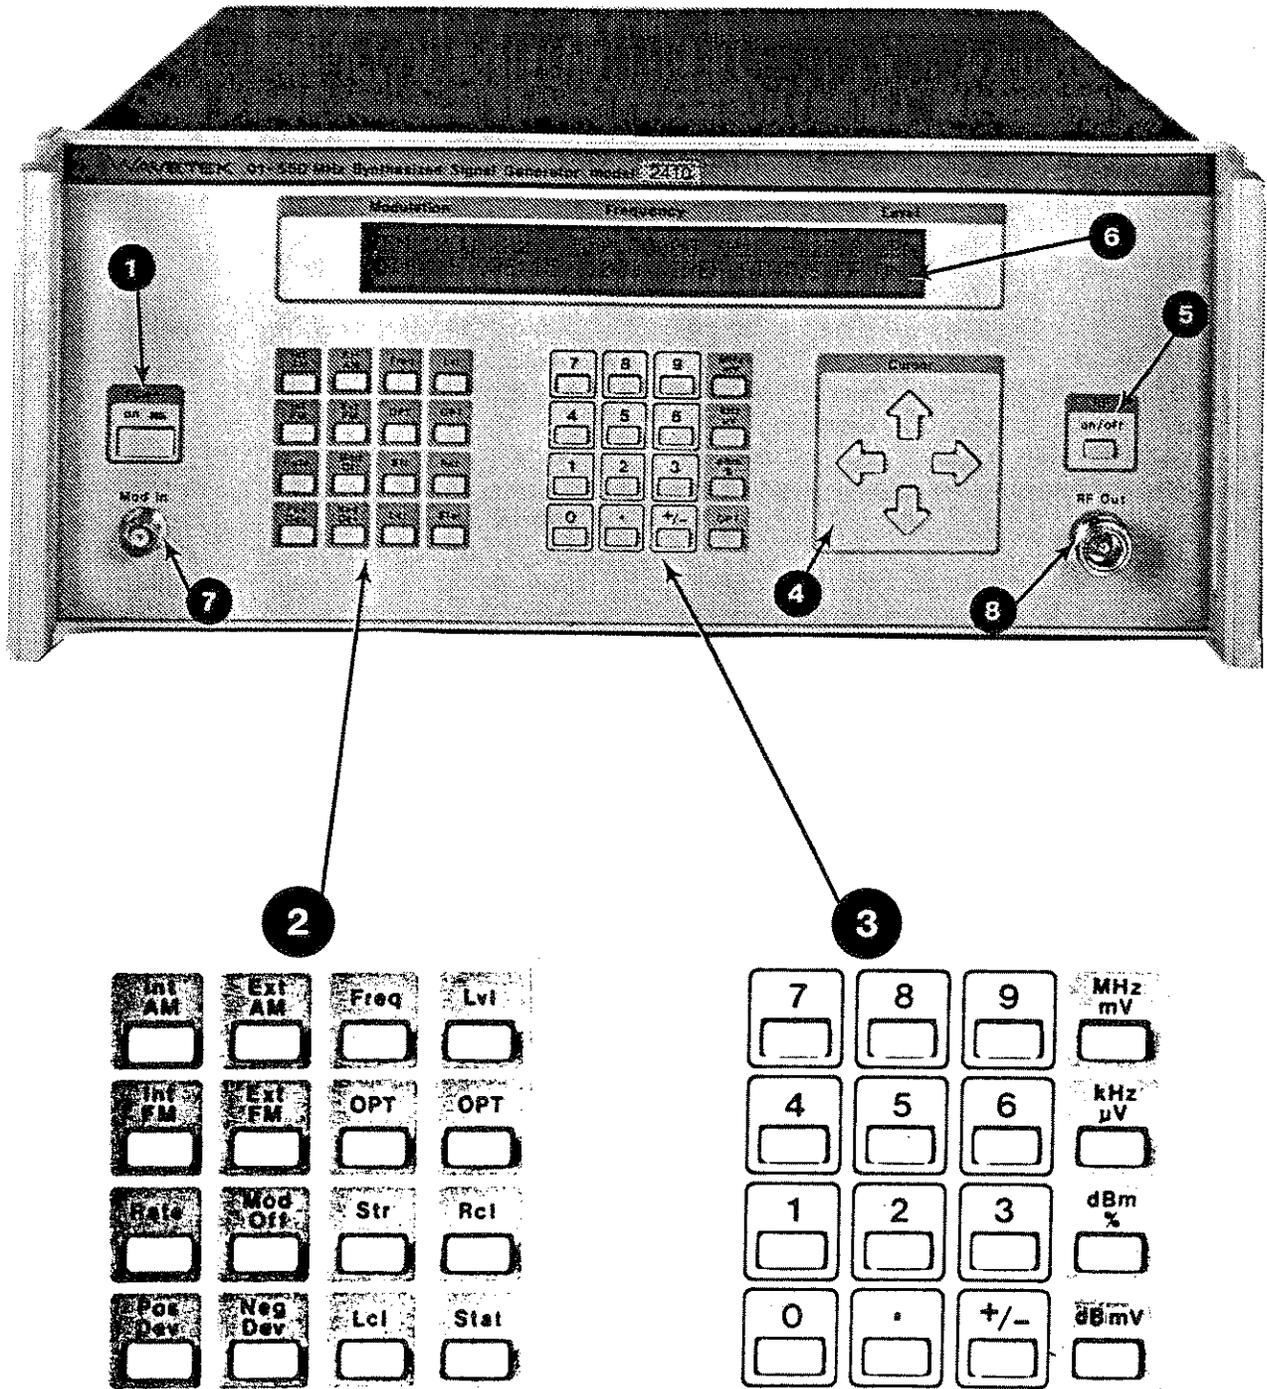

Figure 3-1. Wavetek Model 2407 Front Panel
Front panel operating controls, displays, and connectors are shown in Figure 3-1. All controls necessary for local (manual) operation of the unit are located on the front panel. Front panel features are identified by number in Figure 3-1. Each numbered feature is briefly described in the following paragraph with the same number.
The front panel display is a two line by forty character, dot matrix, liquid crystal display (LCD). The display provides information about RF output characteristics, indicates operational status of the instrument, and shows readings for the optional deviation meter. The display is divided into various information fields described in the following sections. The top line includes modulation information, frequency information, and level information. The bottom line includes additional modulation information, front panel setting storage/recall information (memory), GPIB and external reference indicators, status information, and the RF on/off indicator. Both lines carry deviation meter information. Many of the numeric values shown on the display will contain the underlined resolution digit used with the cursor (see item 4, Figure 3-1; section 3.3).
After a blank space, the next four characters of the modulation field indicate the numeric portion, including decimal point, of the modulation value. The Cursor (see item 4 of Figure 3-1 and see section 3.3) may be used to control these digits. After another blank space, the last three characters show the modulation units (% or kHz). When no modulation (internal or external) is in effect, MOD OFF is displayed.
The frequency field is on the first line of the display, below the "Frequency" label. It consists of characters 15 through 28 on the line and is separated from the modulation field by two blank spaces. The numeric value of the frequency, including decimal point, is shown in the first ten characters. The Cursor (see item 4 of Figure 3-1 and see section 3.3) may be used to control these digits. After a blank space, "MHz" units are shown.
The level field is composed of the last ten characters on the first line of the display. These characters are located under the "Level" label. Two blank spaces separate this field from the frequency field. The first character in the level field is the plus or minus sign for level in dBm. The next five characters show the numeric value of the level, including decimal point. The Cursor (see item 4 of Figure 3-1 and see
When instrument settings are loaded into (stored) or recalled from memory locations, the location for storage or recall is shown under the Frequency label on line two of the display. Typical store/recall indications are STORE 11 and RECALL 11, for example. When a setting is changed and no longer represents the contents of a particular location, the location information is removed. The Cursor (see item 4 of Figure 3-1 and see section 3.3) may be used to increment or decrement the recall operation.
The fourth field on the second line contains the STATUS message that will flash on and off when an instrument error condition occurs. The STATUS error message will continue to flash on and off until the Status (Stat) key (item 2 of Figure 3-1; section 3.3) is pressed.